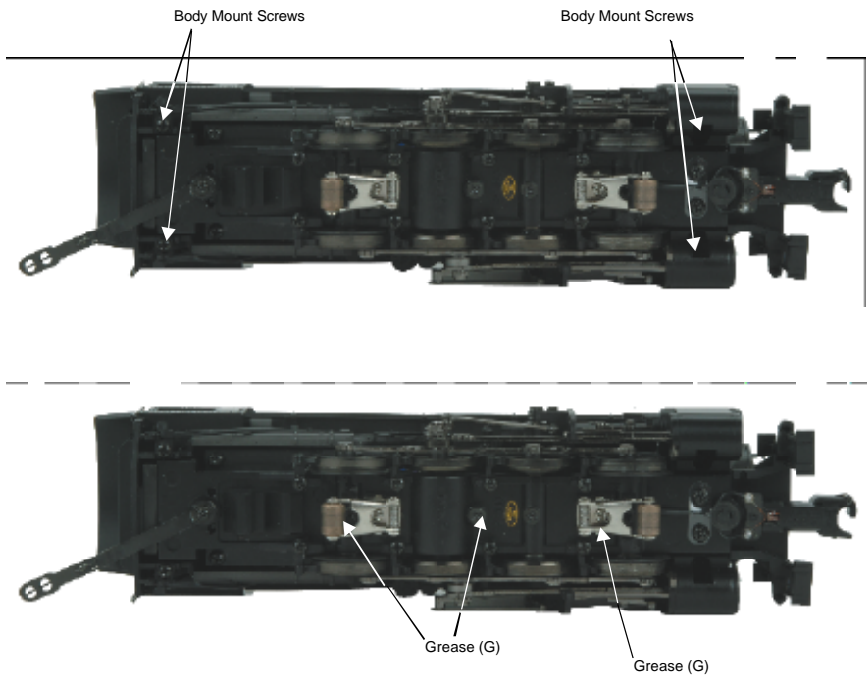

Figure 6
2. Remove the Phillips screws (marked “GREASE”) located at each set of wheels and under pick up rollers (Fig. 6).
1. Remove the body mount screws as shown in Fig. 6 and separate the boiler from the chassis.